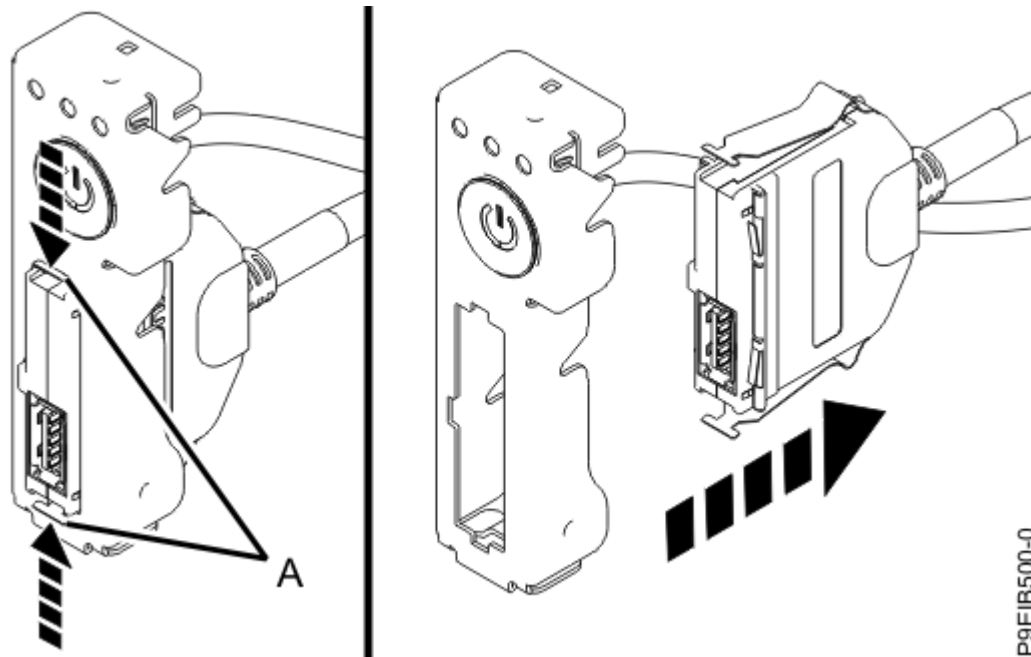

Figure 107. Removing USB cable and connector from the power switch
9. Pressing the latch releases **(A)** on the connector, disconnect the USB cable and connector from the power switch as shown in Figure 107 on page 120.